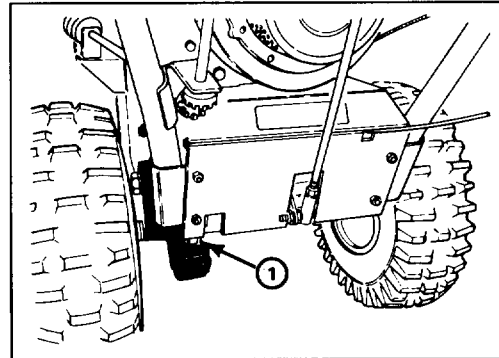

Figure 20
1. Annually lubricate drive chain with chain lubricant (Fig. 20). Wipe up any excess oil.